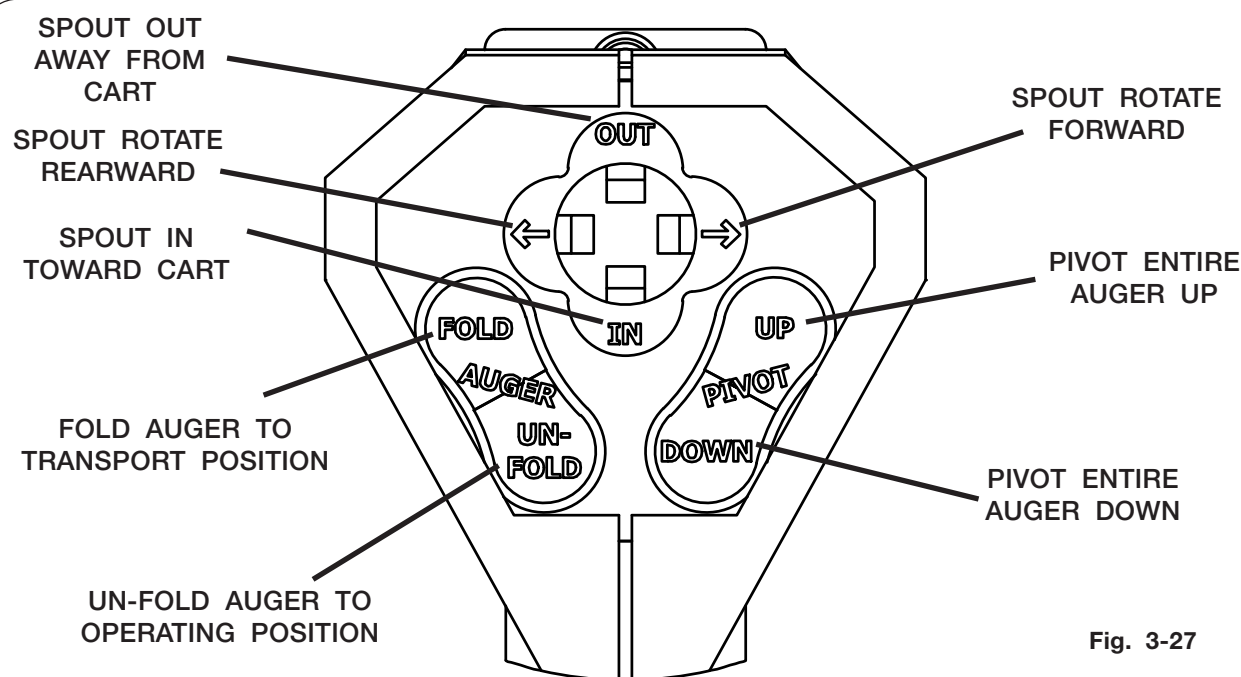

Fig. 3-27
See Fig. 3-27.
4. To pivot spout OUT away from cart, push hat switch toward OUT. Hold the switch until desired position is achieved. See Fig. 3-27.
5. To pivot spout IN toward cart, push hat switch toward IN. Hold the switch until desired position is achieved. See Fig. 3-27.
6. To pivot the entire auger UP, press and hold the auger pivot UP button until the desired height is achieved. See Fig. 3-27.
7. To pivot the entire auger DOWN, press and hold the auger pivot DOWN button until the desired height is achieved. See Fig. 3-27.
8. To pivot the spout FORWARD, push hat switch RIGHT. Hold the switch until desired position is achieved. See Fig. 3-27.
9. To pivot the spout REARWARD, push hat switch LEFT. Hold the switch until desired position is achieved. See Fig. 3-27.